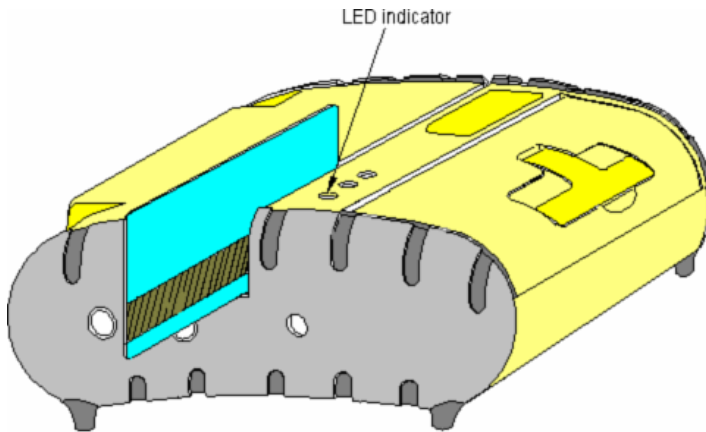

Figure 4: Using the Magnetic Card Reader
- ✚ *Note: Refer to the Figure 4 if your printer is equipped with the optional magnetic stripe reader*